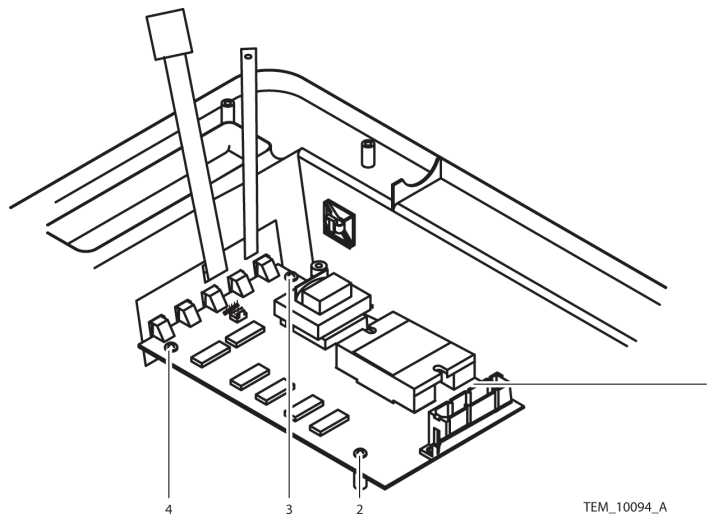

Figure 28. Control PCB Screws
20. Carefully place the Control PCB into the replacement front cover assembly and install the mounting screws. Tighten the screws to 4 to 6 in/lbs (10 to 15 cm/kg). See Figure 28.